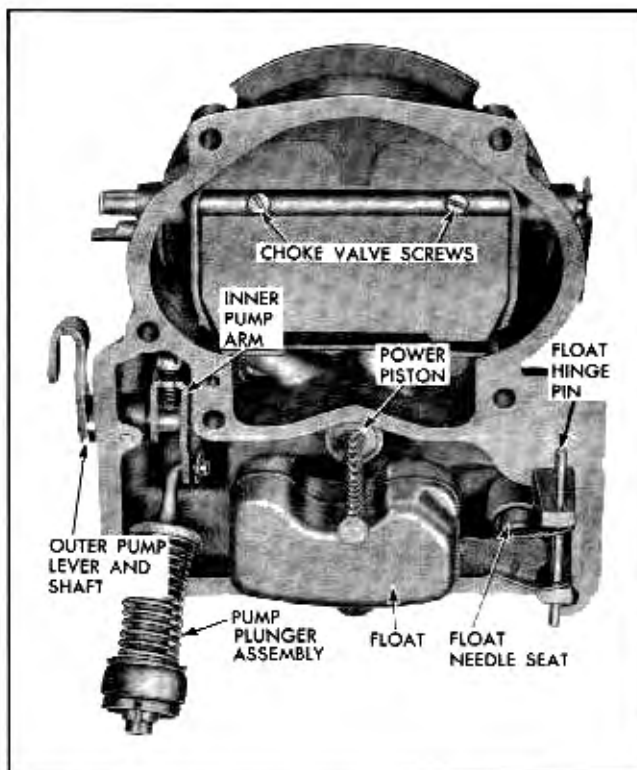

Fig. 6B-13 Air Horn and Attached Parts
7. Remove float needle seat (Fig. 6B-13) and gasket with wide blade screw driver.